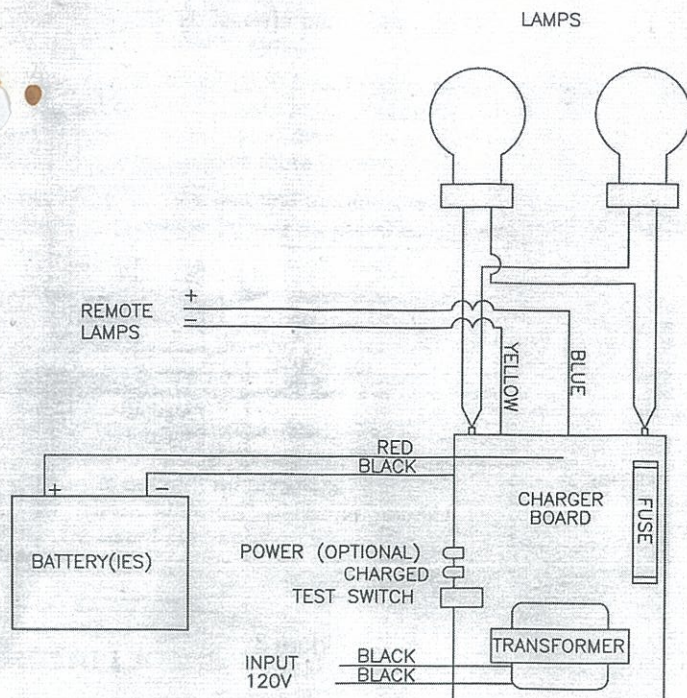

Figure 2
- A. NORMAL OPERATION:** When unit is functioning properly, with A.C. power provided, the "READY" light ⑩ will be on.
- C. CHARGER BOARD REPLACEMENT:** Disconnect wiring as shown in Fig 2 & 3. Charger board ⑦ is secured to Housing ① with three #6 metal screws. Remove screw and lift charger board ⑦ from unit. Install replacement charger board and reconnect wiring as shown in Fig 2 & 3.
- D. BATTERY REPLACEMENT:** Disconnect battery ⑥. Replace battery ⑥ only with manufacturer's recommended replacement. Reconnect battery ⑥ as shown in Fig 2 & 3.
- E. TRANSFORMER REPLACEMENT:** Disconnect wiring as shown in Fig 2 & 3. Remove screws holding transformer ③ in place. Replace transformer ③ and secure in place and reconnect wiring as shown in Fig 2 & 3.
- F. LAMP REPLACEMENT:** Remove retaining ring ⑧ by carefully prying it from the lamp housing. Remove Lens ⑨. Remove lamp from socket and replace with an identical lamp. Replace lens and retaining ring will snap into place.
- G. FUSE REPLACEMENT:** Disconnect wiring as shown Fig. 2 & 3. Remove fuse from board and replace with an identical fuse. Reconnect wiring as shown in Fig 2 & 3.